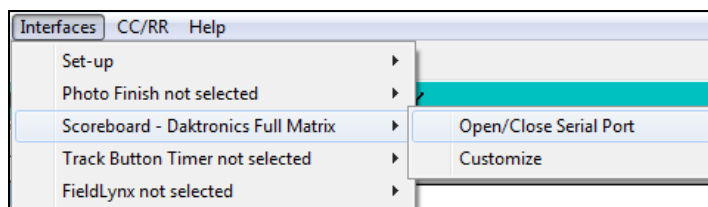

Figure 16: Open/Close Serial Port
5. Go to **Interfaces > Scoreboard - Daktronics Full Matrix > Open/Close Serial Port** (Figure 16).